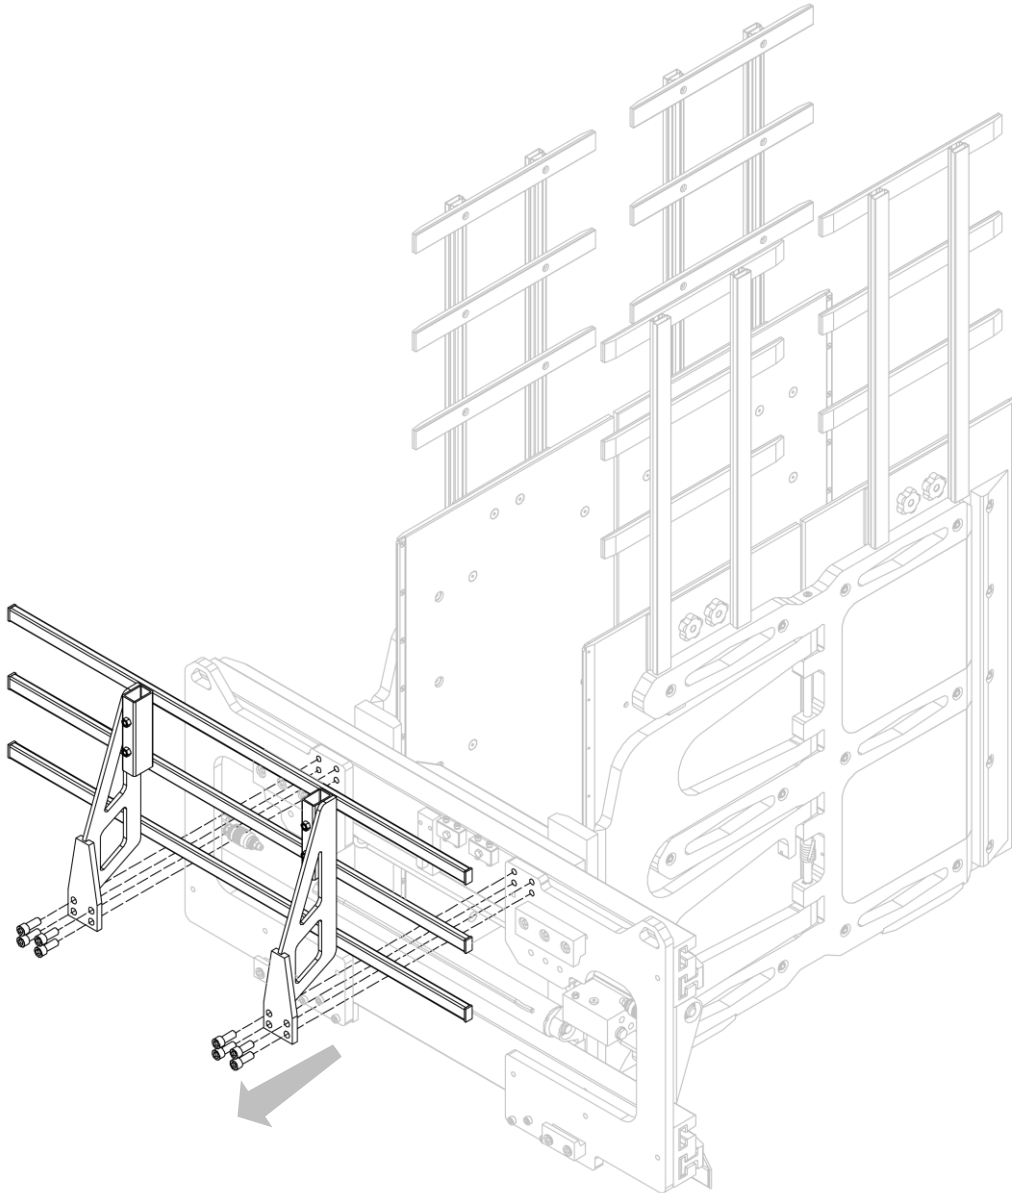

Figure 61
4. Remove the load-retaining frame from the equipment after unscrewing the screws that secure it (see *Figure 61*).